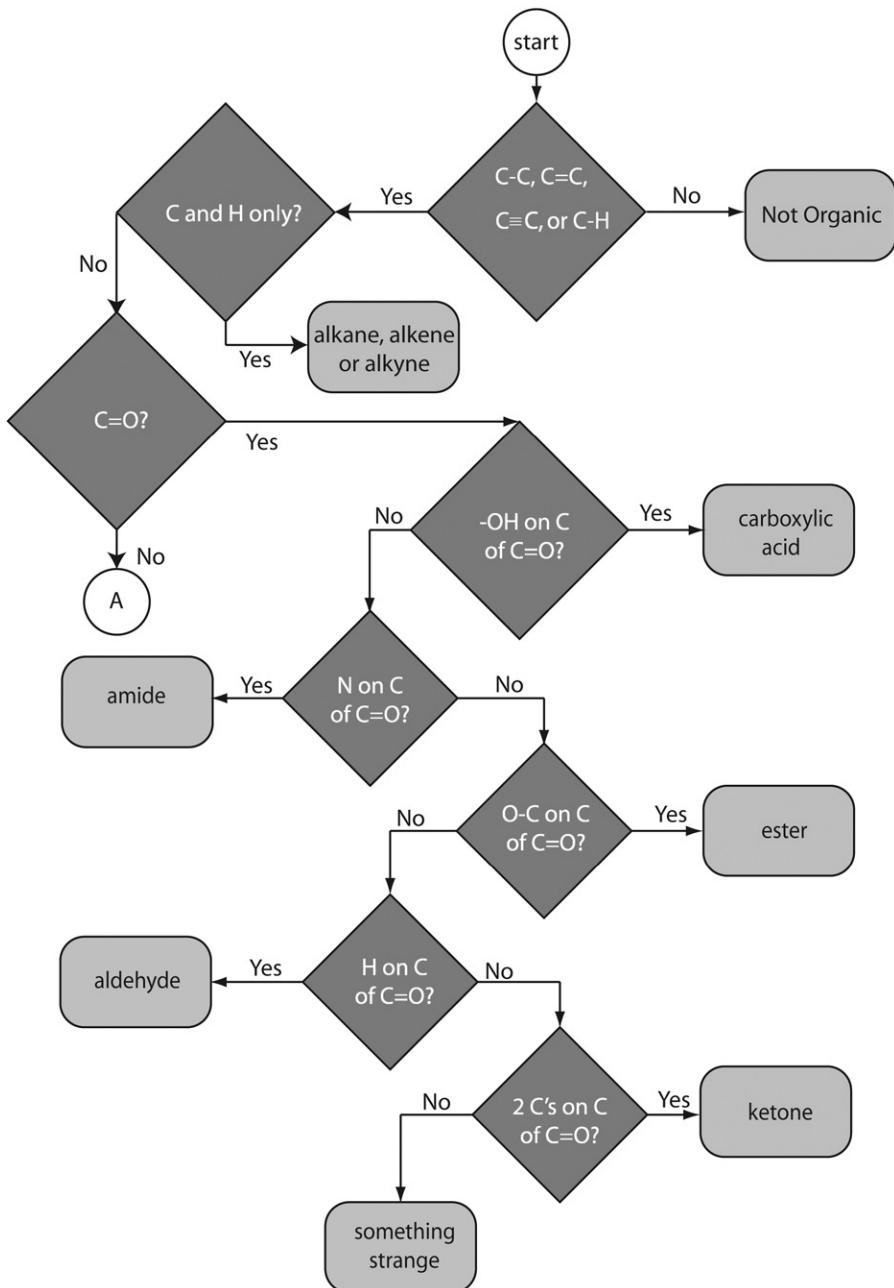

Figure 5.40 Functional Group Guide 1.
The Functional Group Guide (Fig. 5.40 and Fig. 5.41) is a graphic decision tree that can help identify some compounds that are important in beer. We will follow an example to show how it works. Our task is to classify the compound shown below.
- Enter the Guide (Fig. 5.40) at “Start.”